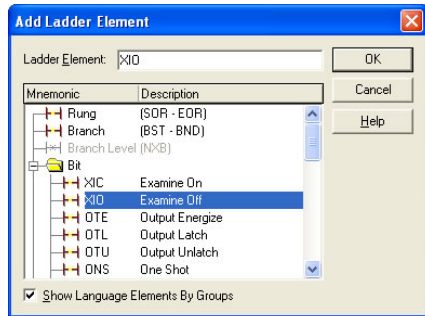

Figure 102: Adding an XIO Element
- c) Select the "XIO" element in the Bit folder. Refer to Figure 102.